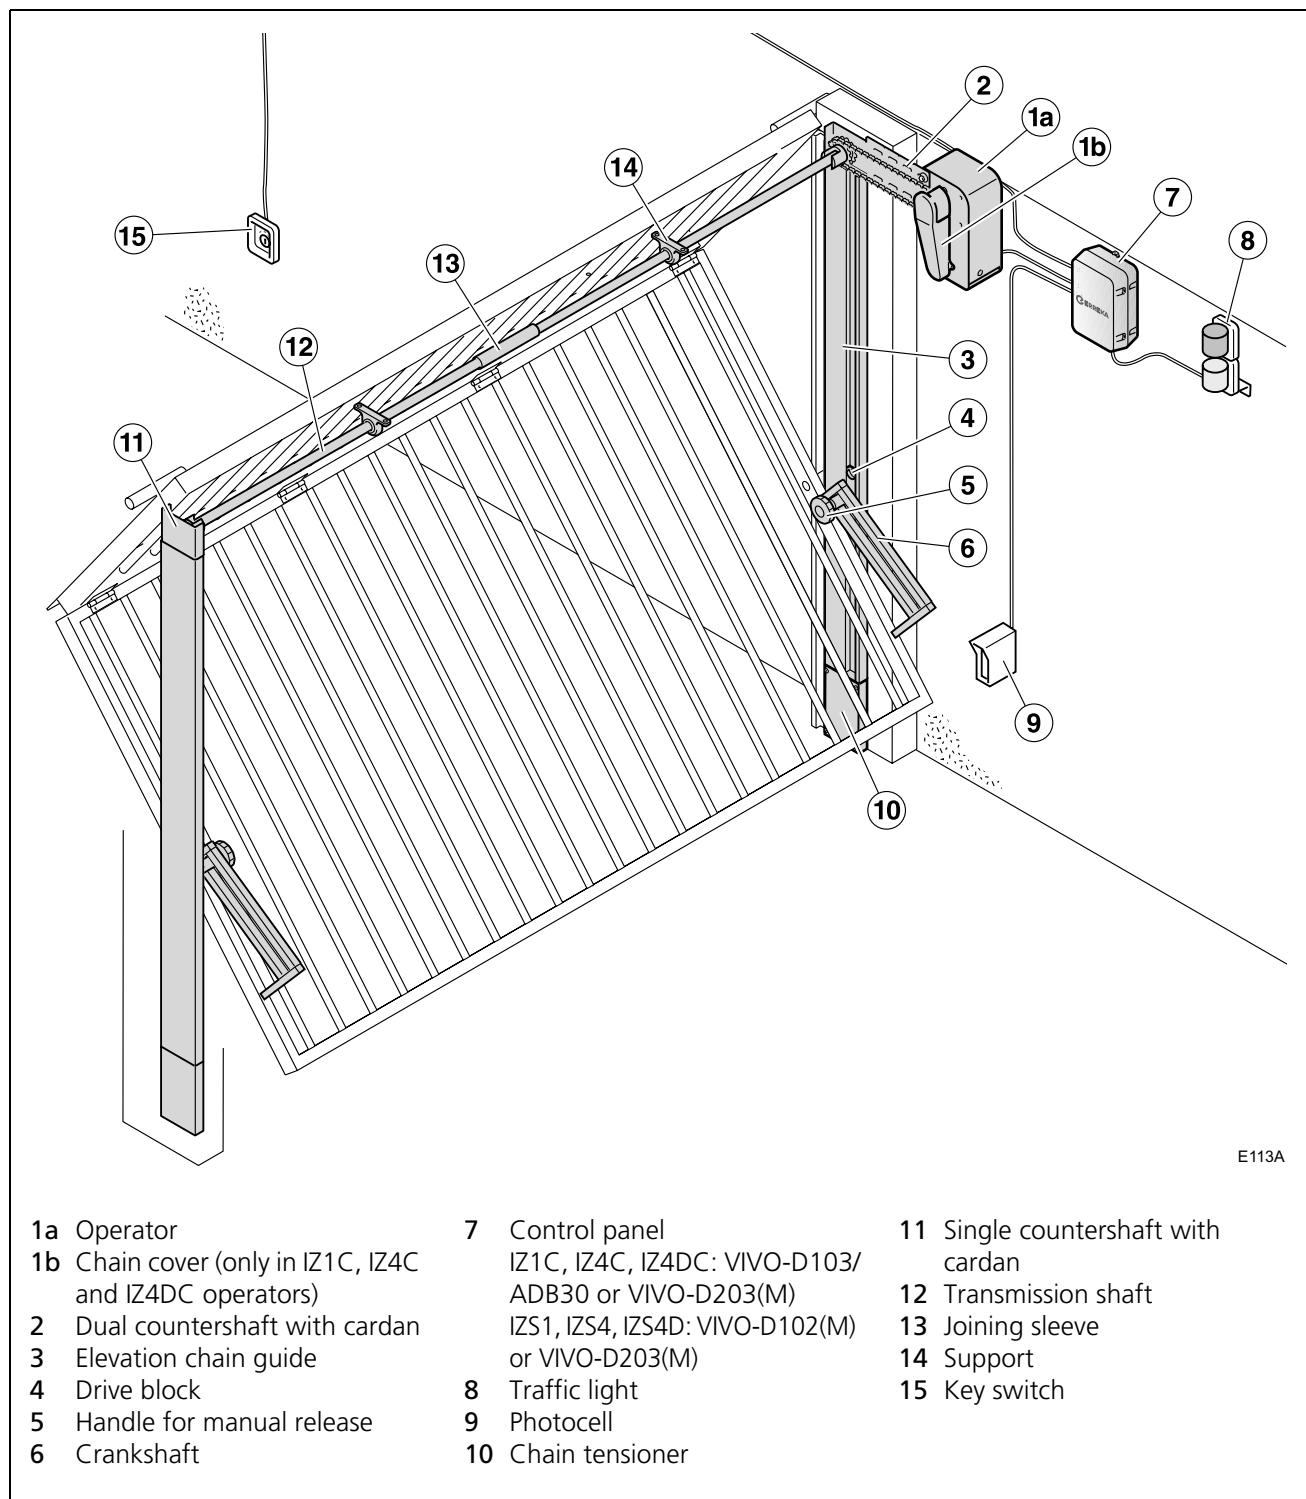
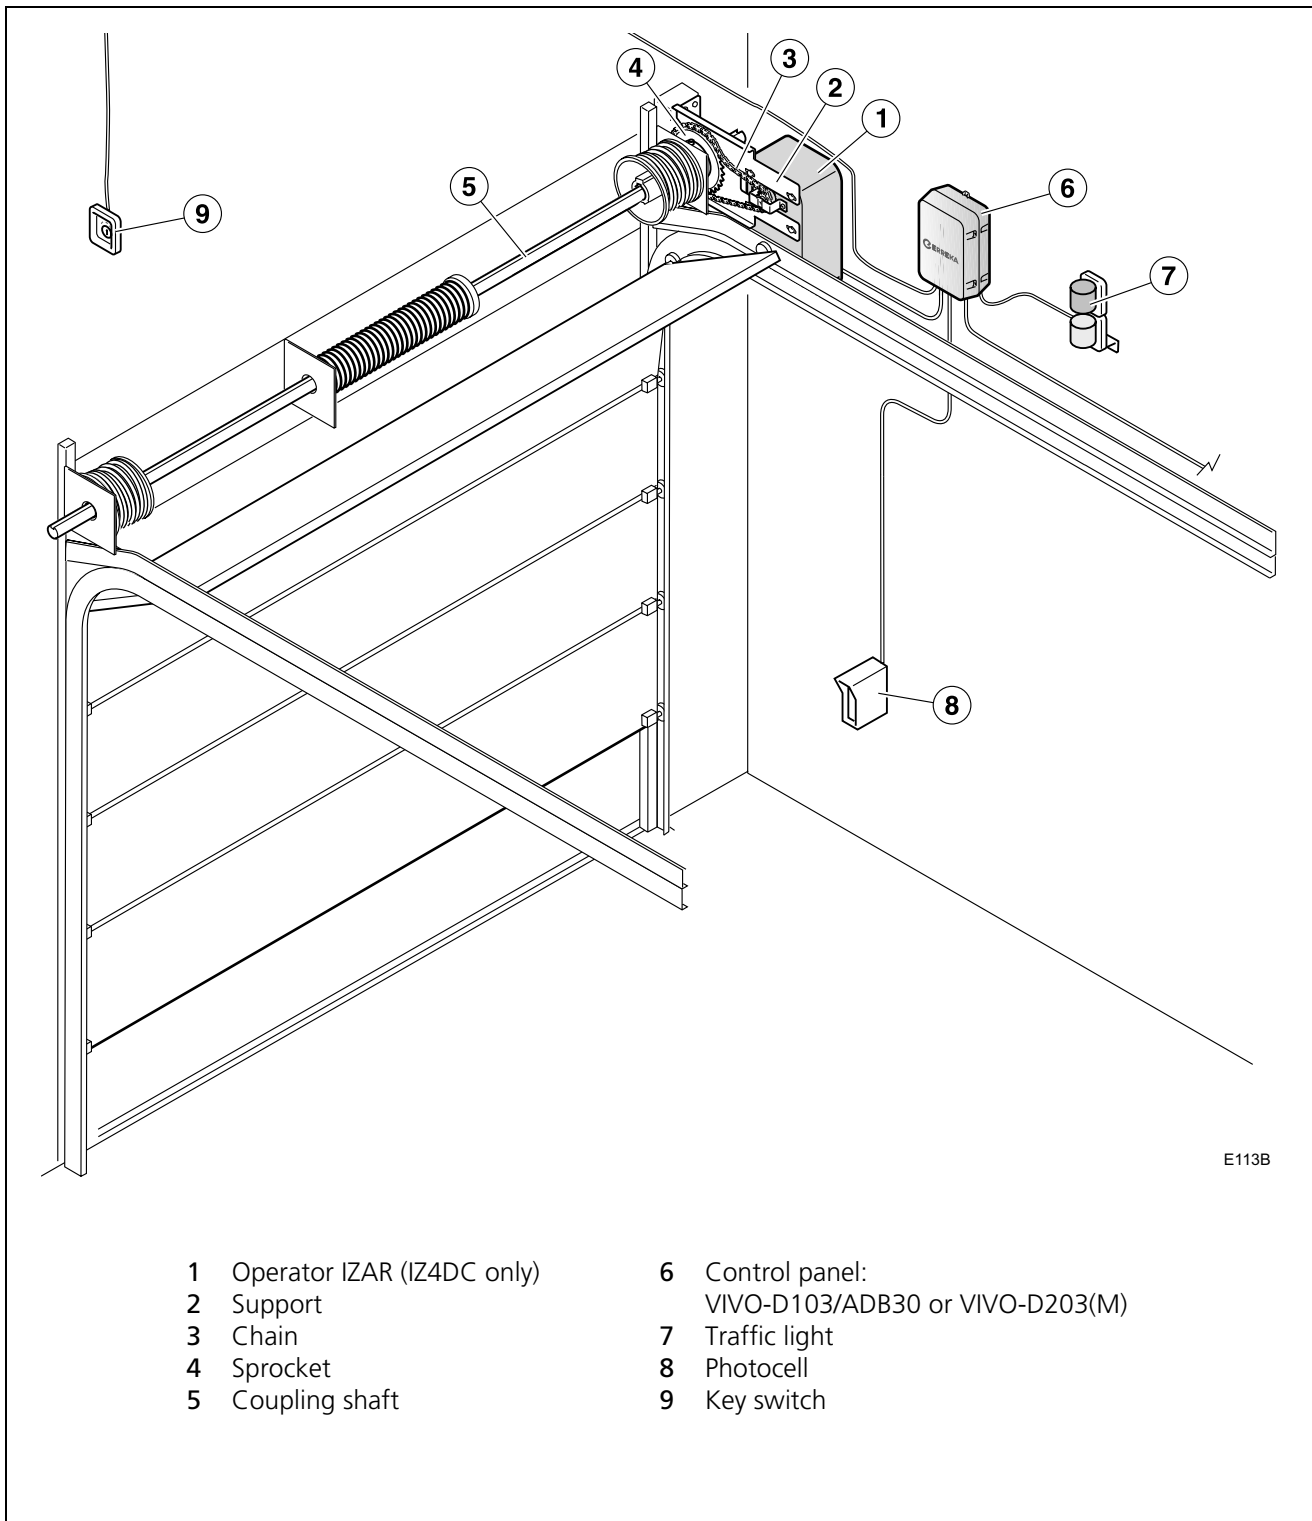

Fig. 1 Elements of the complete installation (up-and-over door)
Fig. 2 Elements of the complete installation (sectional door)
- For further details, see "Fig. 1 Elements of the complete installation (up-and-over door)" on page 28 and "Fig. 2 Elements of the complete installation (sectional door)" on page 29.
- 2 Check that the content of the package is complete. It should include the operator (1a) and the IZ1C, IZ4C and IZ4DC operators, as well as the chain cover (1b) (see "Fig. 1 Elements of the complete installation (up-and-over door)" on page 28). The rest of the elements are supplied separately.